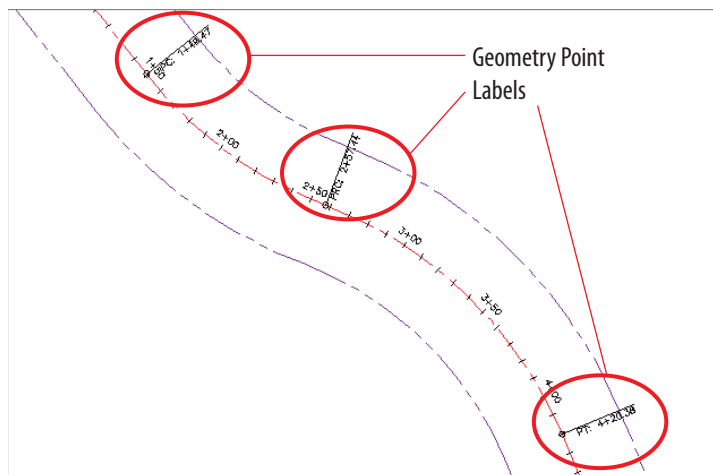

FIGURE 6.3 Geometry point labels displayed on the Jordan Court alignment
9. Press Esc to clear the selection. Examine the alignment labels, and note the labels at the PCs, PTs, and PRC, as shown in Figure 6.3.